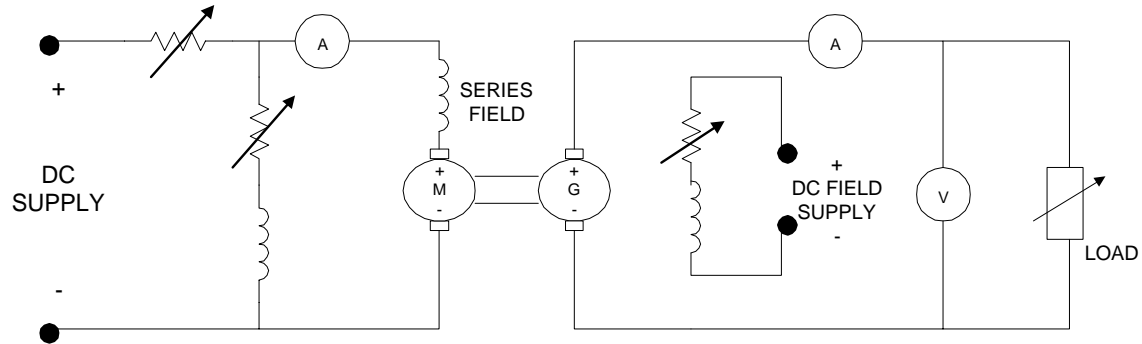

Fig.2: The Compound Motor Generator Connection
8. Make connection as given in fig.2 for the compound motor.